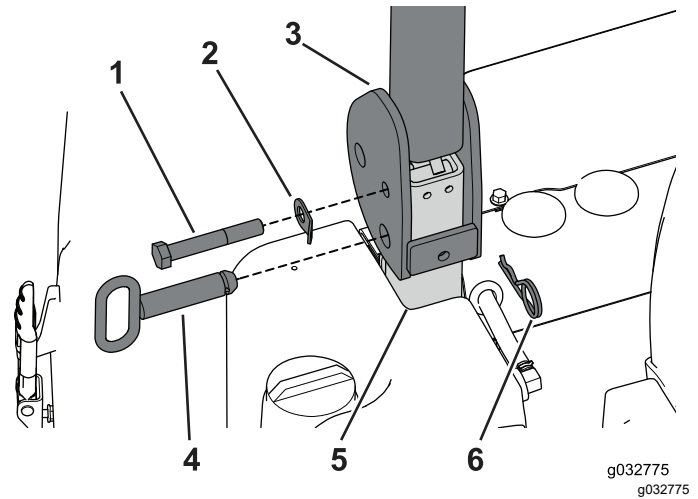

Figure 46
2. Remove the hairpins and the pivot-lock pins from the roll bar and set the hairpins aside (Figure 46).